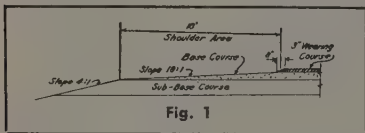

Fig. 1
1. The costs of a fully paved section are substantially greater than the section constructed with paved travel area and granular shoulders. An analysis of costs on the 44-ft. Interstate Section in Colorado indicates that an additional cost of approximately \$13,000 per mile might be expected. Figure 1, immediately below, shows a part section of the "Type A" standard in Colorado with a granular shoulder area 10 ft. in extent on both sides. This area is
as wide, the cost would be approximately 50% of that required on the Interstate System shown in Figure 1. Specifically, extending the 3-in. wearing course across the shoulder would cost about an additional \$6,500 per mile. If only the top inch, the cost would be about \$2,200 per mile.